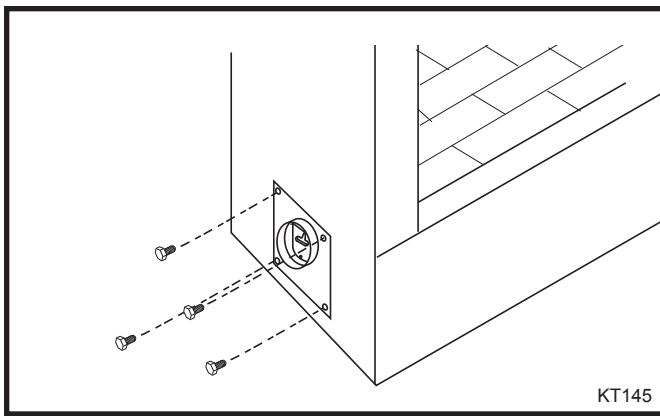

Fig. 14 Secure the inlet collar assembly.
2. Secure the inlet collar assembly to the outer casing with four screws (not provided). (Fig. 14)
3. Slide the duct over the collar and attach the duct to the collar using the plastic tie straps or three (3) screws (screws not provided). Continue attaching the ducting together using three (3) screws at each joint until you have installed sufficient duct to arrive at your duct termination locations.